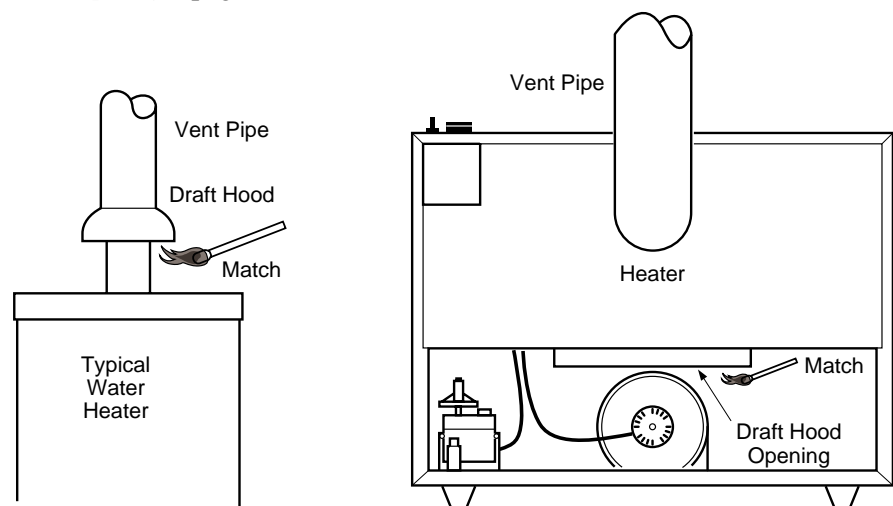

Figure 14 - Checking for Draft Spillage
6. Check for draft-hood spillage at each vented gas appliance. Do this by holding a lit match two inches from the draft opening (see Figure 14). If match flame pulls toward the draft hood, there is no spillage. If match flame blows away from the draft hood, there is spillage. This is a hazardous condition. See *Draft Hood Spillage*, page 19.